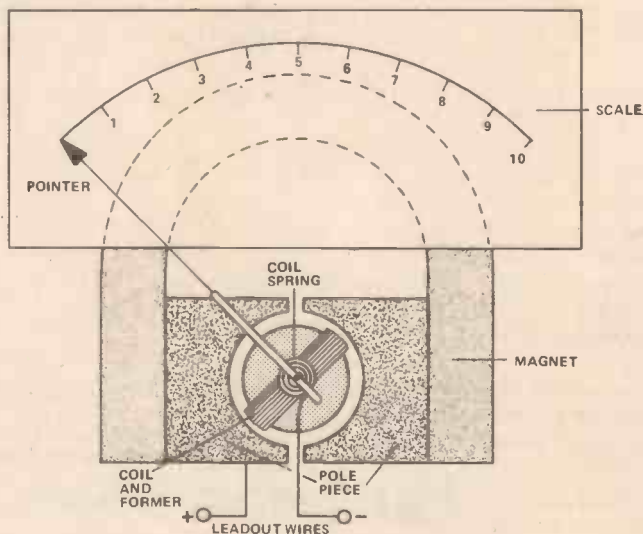

Fig. 1. Basic moving coil meter movement.
The action of the ADSR generator can be understood more clearly with the aid of the explanatory diagram of Figure 1. The top part of this shows what happens if you pass a steady tone signal through a linear transmission gate (an electronic switch) that is activated by an external control switch. The input signal appears at the output, with virtually zero 'Attack' time, as soon as the control switch is closed, it has a 'Sustain' amplitude identical to that of the input signal for the duration of the switch closure, and disappears with virtually zero 'Release' time as soon as the switch is opened again. The resulting output signal sounds completely artificial and uninteresting.
**Fig. 1. The diagram at the top shows the totally artificial waveform that is generated when a simple signal is passed through a transmission gate. The lower diagram shows the more realistic waveform that is produced when the same signal is passed through the ADSR envelope generator.**
The operating principle of a moving coil meter is quite simple. The meter incorporates a coil of fine wire wound on an aluminium former or bobbin that is supported by delicate bearings, so that the assembly can move under almost frictionless conditions (hence the title 'moving-coil'). Also mounted on the assembly is a pointer, which projects over a fixed and graduated scale enabling any degree of movement of the coil to be read off the scale. The coil is mounted within the powerful magnetic field of a fixed permanent magnet (see Fig. 1). Current can be fed to the coil via a pair of contra-wound coil springs, which are fitted at opposite ends of the bobbin in such a manner that their tensions balance out when the pointer is in the 'zero' position.